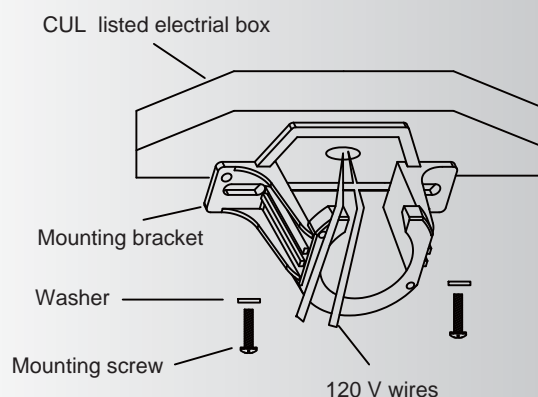

Fig. 6
Step 2. Secure the hanger bracket to the ceiling outlet box using screws and washers provided with the outlet box. (Fig. 6)